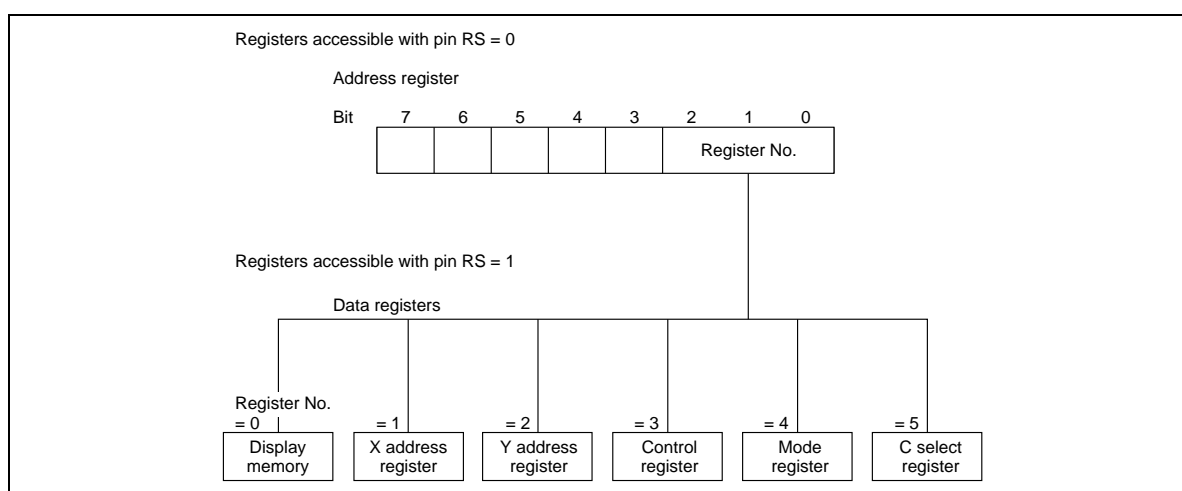

Figure 6 Relationship between Address Register and Register No.
(1) Access
Figure 6 shows the relationship between the address register (AR) and internal registers and display memory in the HD66108T. Display memory shall be referred to as a data register since it can be handled as other registers.